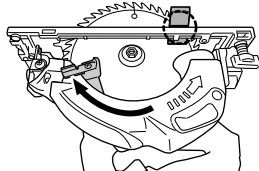

Fig. 17
- (2) Retract the lower guard into the saw cover.
- (3) Insert wood chip in the rear side of the saw blade base, and mark the position on the base (Fig. 17).